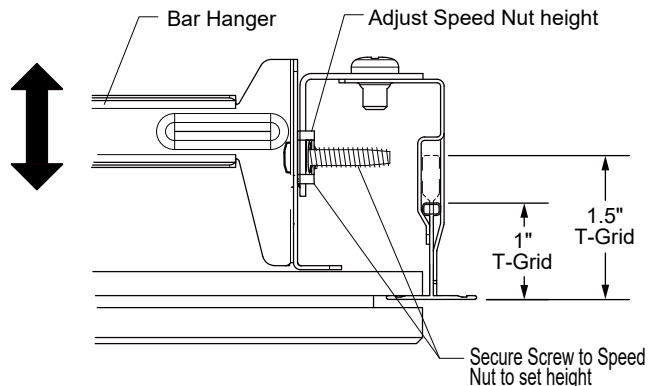

FIG 4.6 Adjust vertical Housing height
STEP 5 Adjust vertical height of Housing by sliding speed nuts so Housing is level with Ceiling Tile. Lock position by tightening Mounting Screws - **FIG 4.6**.